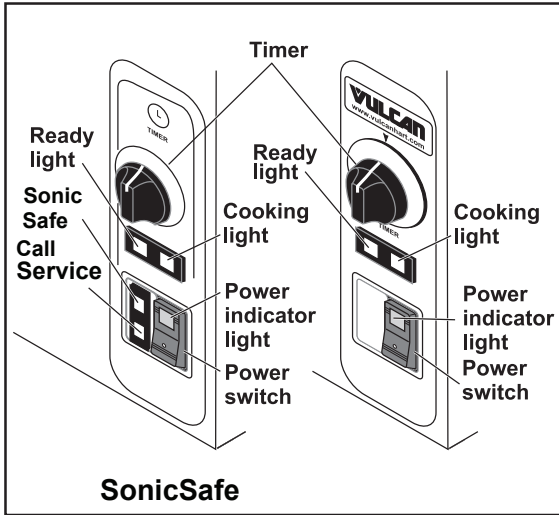

Figure 3
**NOTICE** Controls for SonicSafe are shown in Figure 3.